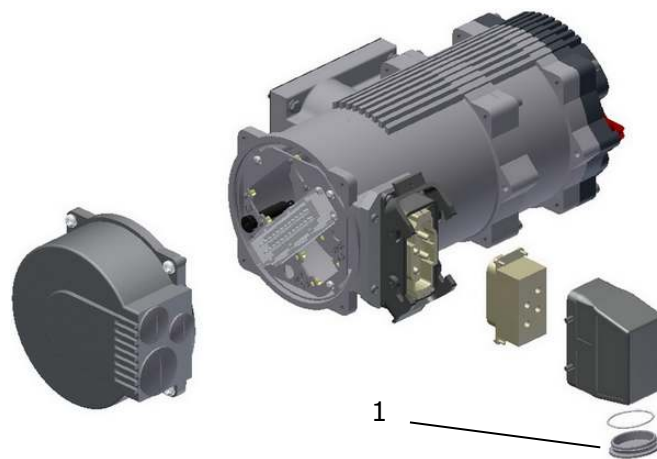

Figure 14: size 2 with the additional plug, 1... M40x1,5
- size 2: connection of the control signals is the same as size 1, the connection of the power supply is made by an additional plug (see Figure 14), both plugs aer with screw connection.